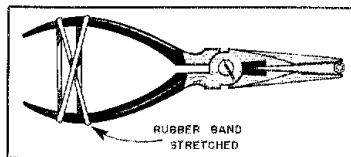

Fig. 6 — Using a rubber band to make a needle-nose pliers vise.
Dennis Boyd, KC7BE, spotted an error in Bob Heil's "Experience 10-Meter FM Operation" (Fig. 6, p. 26, August 1981 *QST*). In redrawing the pattern for publication, we omitted the trace between pins 3 and 4 of UI.
□ An alternative to the May 1981 *QST*, page 45, Hints and Kinks problem requires no drilling and tapping of the tool handle. Just stretch a rubber band, and wrap it tightly around the handle as shown in Fig. 6. This vise is useful for holding small items during assembly, or holding wires for soldering. — *Jack Rosen, KA8LFX, Farmington Hills, Michigan*